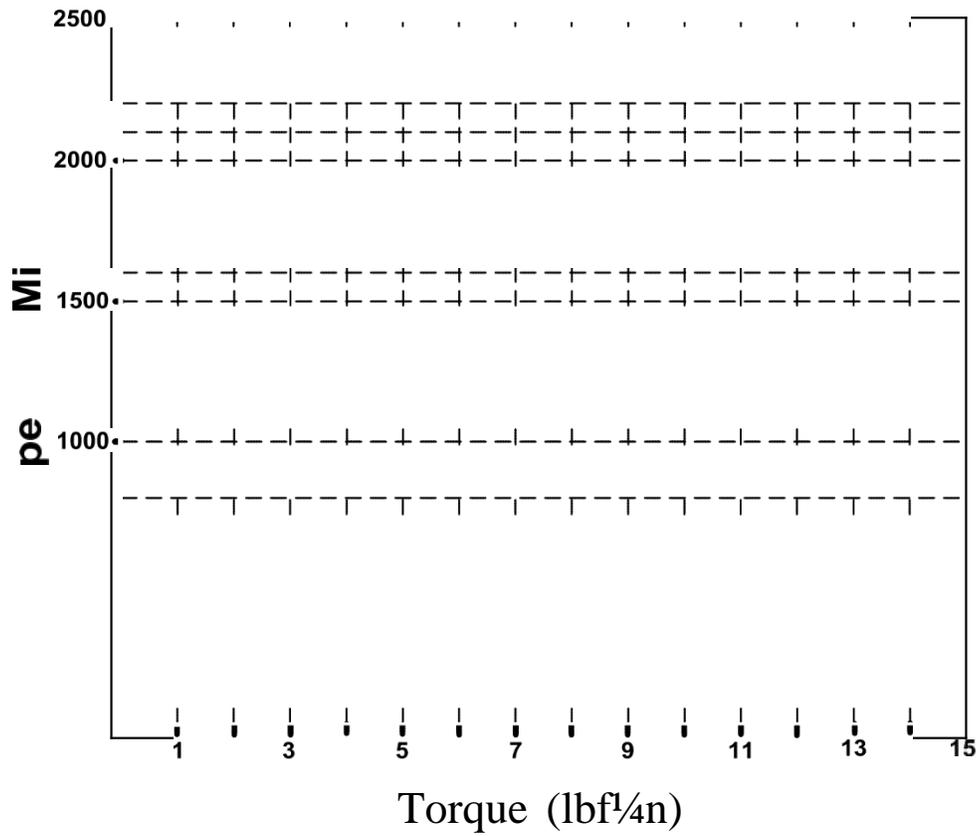

Figure 11.9
Step 7: a) Plot the recorded motor speed values from *Table 11-1* on the graph of FIGURE 11.9.